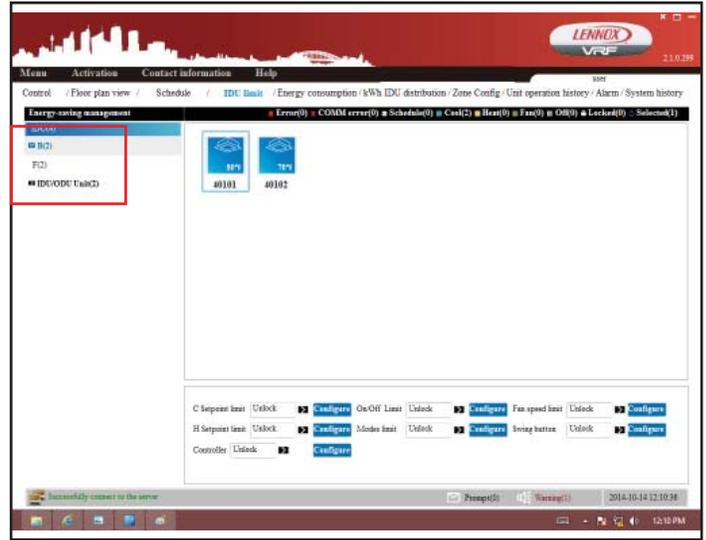

Figure 38. Select Indoor Units
3. Tap each indoor unit the limits should be applied to. The selected units will be outlined. To deselect, tap again. See figure 38.